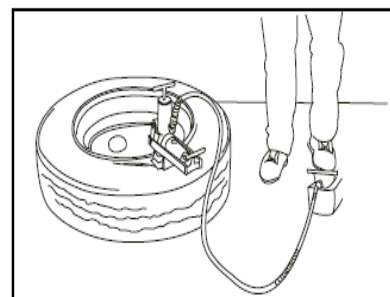

Figure 6
4. Step away from the bead breaker. (See Fig. 6.)